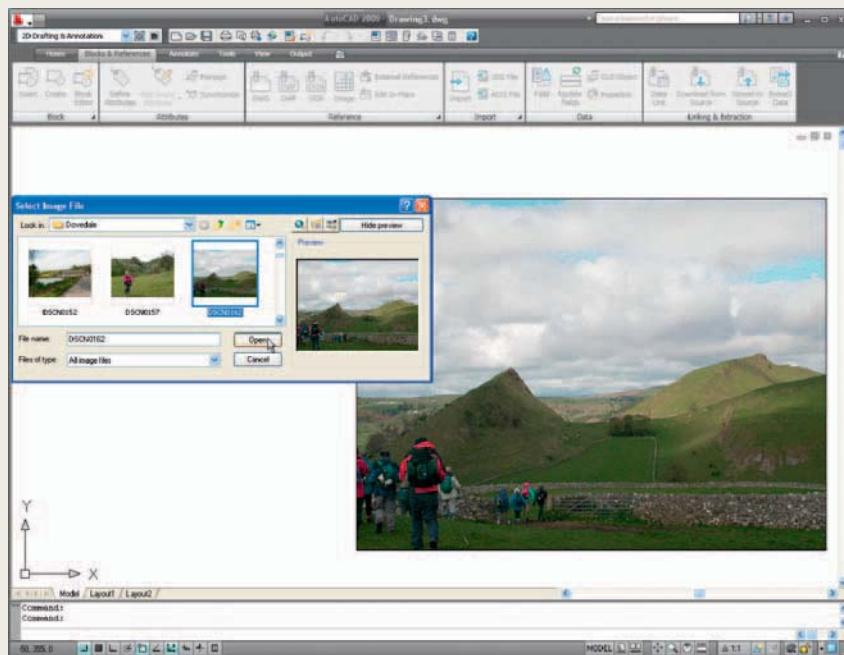

Fig. 10.30 Exercise 3 – an example
3. Click **Image...** in the **Reference** panel and insert a **JPEG** image (*.jpg file) of a photograph into the AutoCAD 2010 window. An example is given in Fig. 10.30.